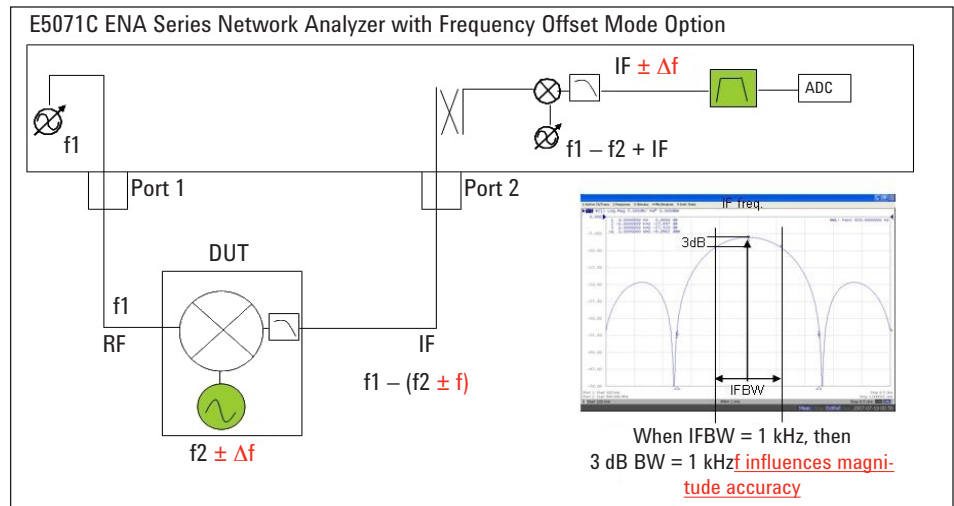

Figure 9. IFBW versus LO frequency drifts with FOM mode
Figure 9 shows the ENA setup in FOM. IFBW is set to 1 kHz, and the 3 dB bandwidth (BW) of the IFBW filter is approximately 1 kHz. If the actual output frequency of the DUT has an offset such as 500 Hz ($=BW/2$) from target frequency, the magnitude result has a 3 dB error. When the output signal drifts, the measurement results are also changed at the same time.